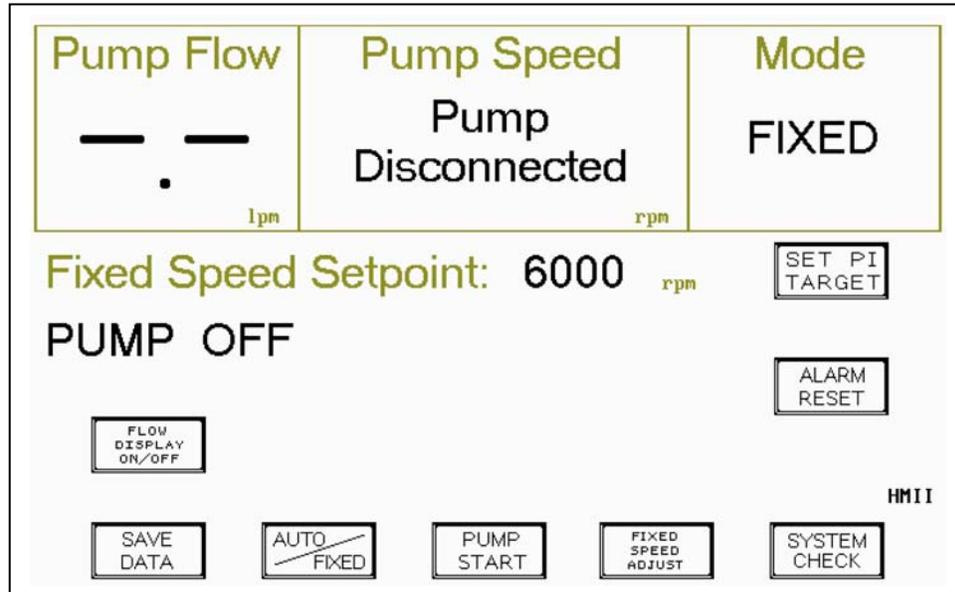

Figure 7: System in FIXED mode & Fixed Speed set at 6,000 RPM
- 7 Review the System Check screen and verify that all commands are in place as shown on Figure 7. Ensure that the operating mode is set at “Fixed” (see System Status 1 window).
- 6 Review the System Monitor's System Check screen and verify that all commands are in place as shown on Figure 7.